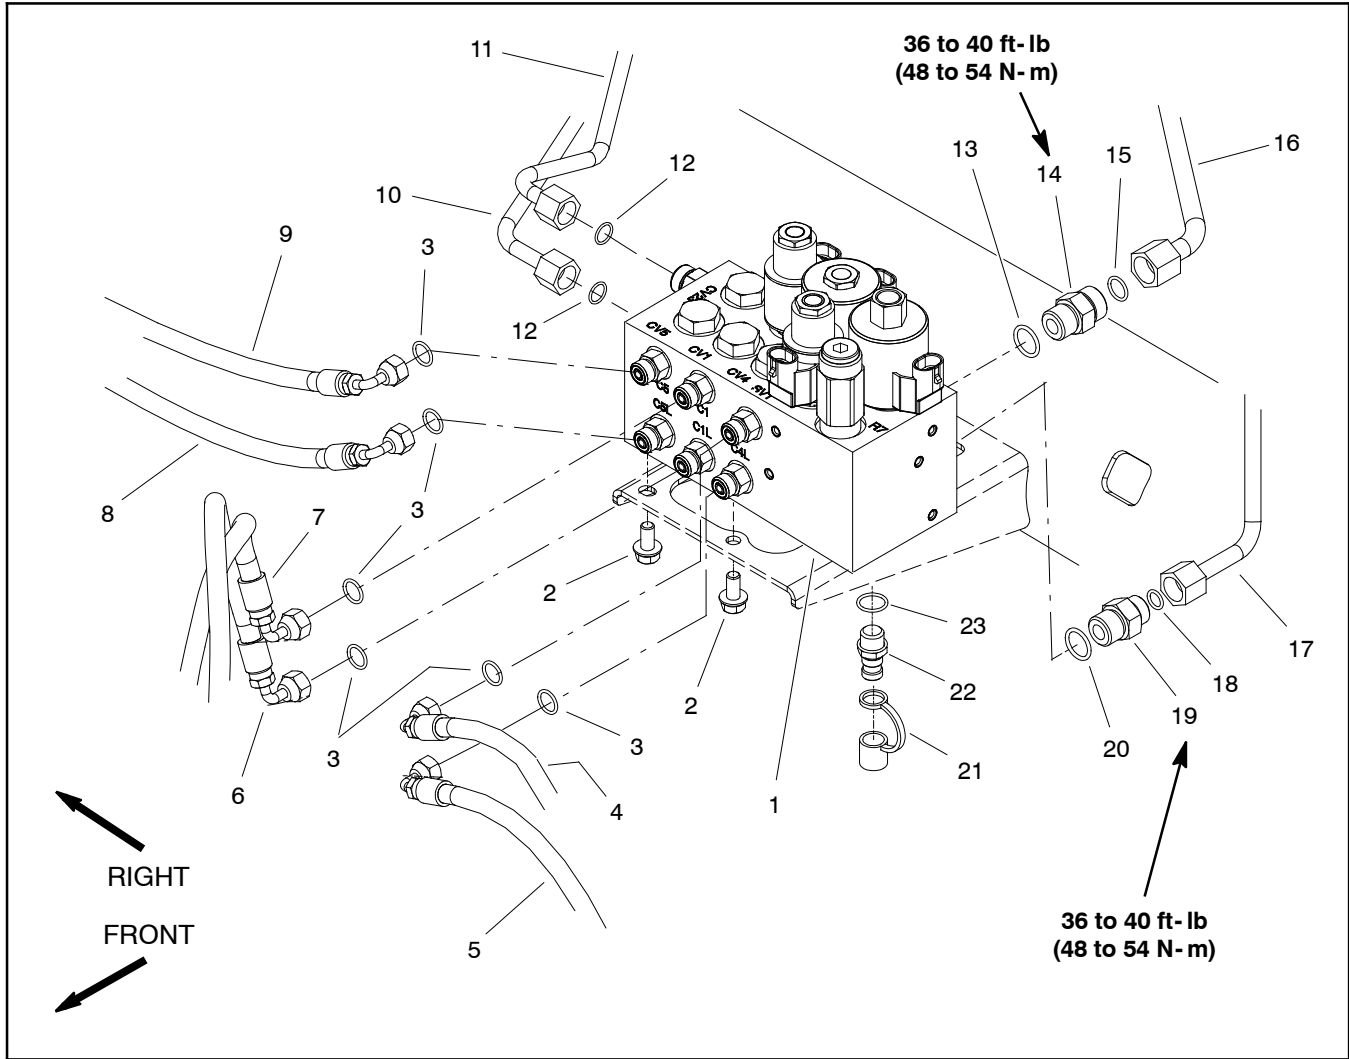
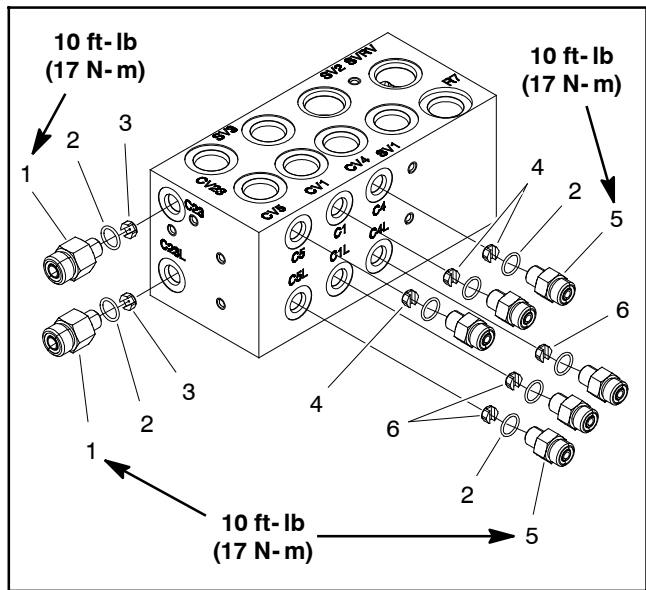

Figure 77
Figure 78
**Removal (Fig. 77)**
8. Remove two (2) flange head screws that secure manifold to machine frame.
**IMPORTANT: A flow control orifice is placed beneath several hydraulic fittings on the lift control manifold (Fig. 78). The lift manifold uses three (3) different orifice sizes. If fittings are removed from manifold and an orifice is in the manifold port, make sure to remove orifice and label its position for assembly purposes.**
**Installation (Fig. 77)**
**IMPORTANT: When installing orifice in manifold (Fig. 78), make sure that orifice is flat in the base of the fitting cavity. Manifold damage is possible if the orifice is cocked in the cavity.**
C. Install fittings into manifold. Torque fittings to torque values identified in Figures 77 and 78.
2. Position lift control manifold to frame. Install two (2) flange head screws but do not fully tighten.
5. Secure hydraulic manifold to frame by tightening two (2) flange head screws.